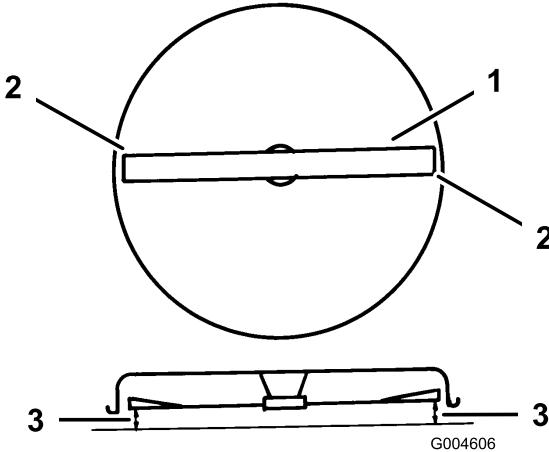

Figure 44
9. Carefully rotate the blade side to side (Figure 44).
10. Measure between the outside cutting edges and the flat surface (Figure 44). If both measurements are not within $3/16$ inch (5 mm), adjust it; refer to steps 11 through 14.